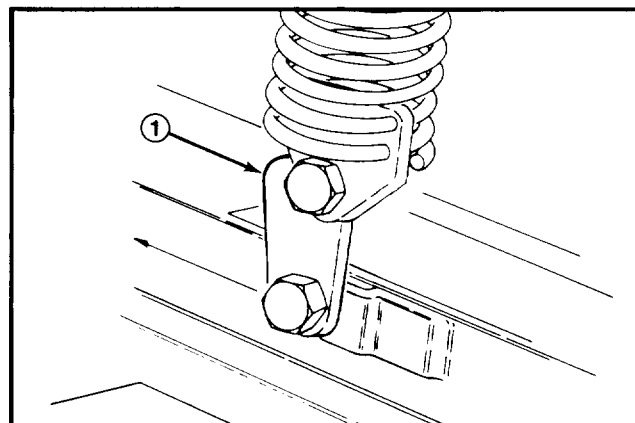

Figure 12
4. Mount bottom of knee link to deck bracket with a shoulder bolt, flatwasher and locknut. Flatwasher to be positioned between knee link and deck bracket (Fig. 12, 13).